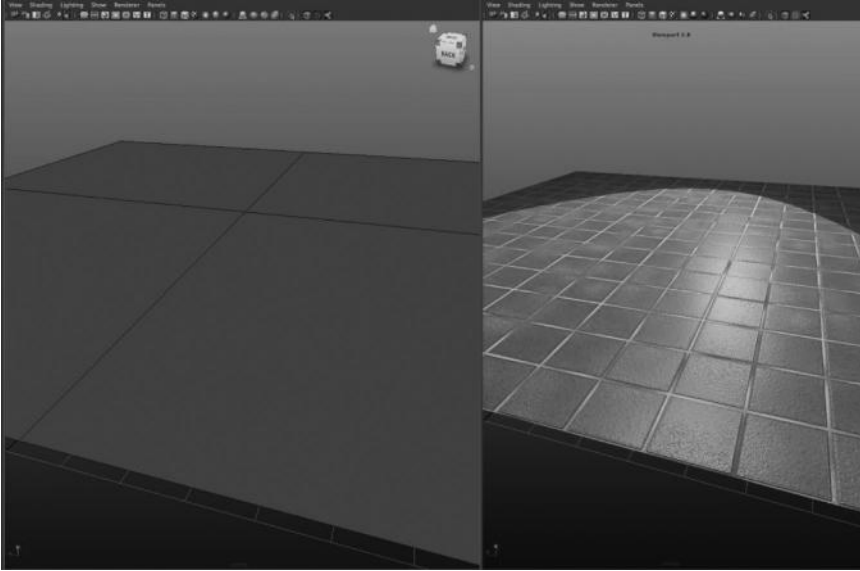

FIGURE 4.48 (SEE COLOR INSERT) Notice that the illusion of “texture” or dimples and grooves is created without heavy geometry. This is done using a bump map.
**Bump mapping**—Also known as **normal mapping**, the bump value uses alpha information from a **texture** (more on textures later) to create the illusion of “bumpiness” on a surface. It does so by creating fake normal information based on grayscale values to raise up or indent areas on your object. The advantage in using a bump map is that you can create very complex visual effects with a very small amount of geometry. Creating something like a ridged or textured appearance with bump maps instead of actual geometry is very efficient and the preferred way of handling this kind of effect. In Figure 4.48, you can see two panels side-by-side, on the left of which is a simple polygon plane, and on the right of which is that same plane with a material and a bump map applied. Despite only having a few polygons, this image shows how powerful the bump map can be in depicting real-life texture on an object. The grayscale values of the bump map create the high and low bumps and divots on the surface, which appear